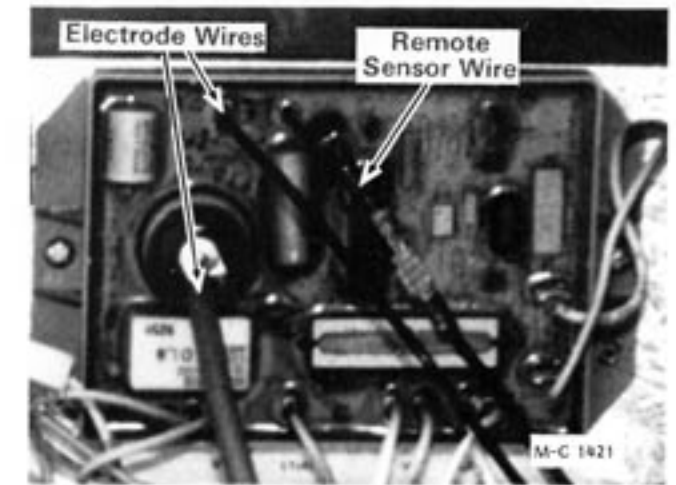

Figure 38
5. Check to be sure that there is 115V power to the ignition board. Connect a voltmeter between terminal A (L1) and L2 on the ignition board, see Figure 38 and 39.
- A. Flip the ignition switch OFF. Remove the electrode wires from terminals E-1 and E-2 on the ignition board, see Figure 38 and 39.